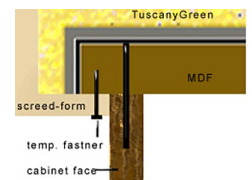

FIGURE 1.3
Mixing Ortex with RPA admixture in a ratio of 1 part RPA-to-3 Parts water for the Ortex base coat. screed-form can be built using a variety of products including MDF or EPS foam boards. This screed-form can be fastened to the MDF substrate. Apply a layer of release agents to the form. Ortex Base coat can then be poured into the form to the desired thickness, up to a depth of 0.5" thick, then be allowed to cure. After cure for 24 to 72 hours, which than it can be machined polished following Diamond polishing instruction (DD), or hand trowel other desired finish. FIGURE1.3